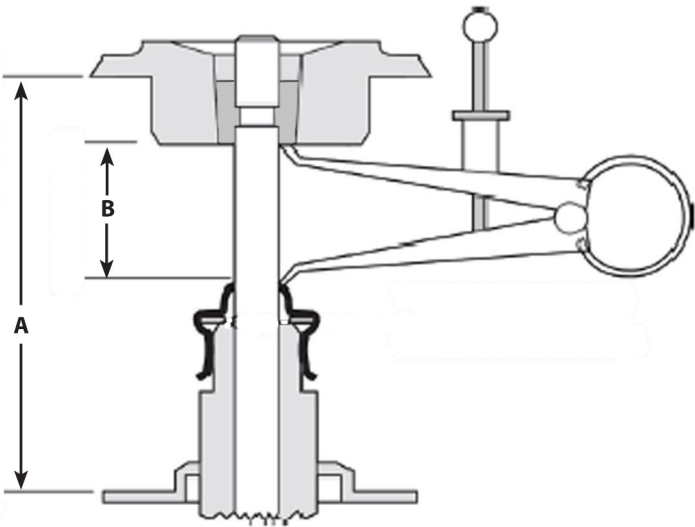

Fig. 2
E. While holding the valve firmly against the seat in the closed position, measure the installed spring height (distance between lower valve spring seating surface and outside step of top collar). See Figure 2, Dimension A. Record this measurement in the table below.
F. Measure distance between top collar keepers and top of valve guide seal. **See Figure 2, Dimension B.** Distance must be at least .060" greater than the valve lift of the cam to be used.